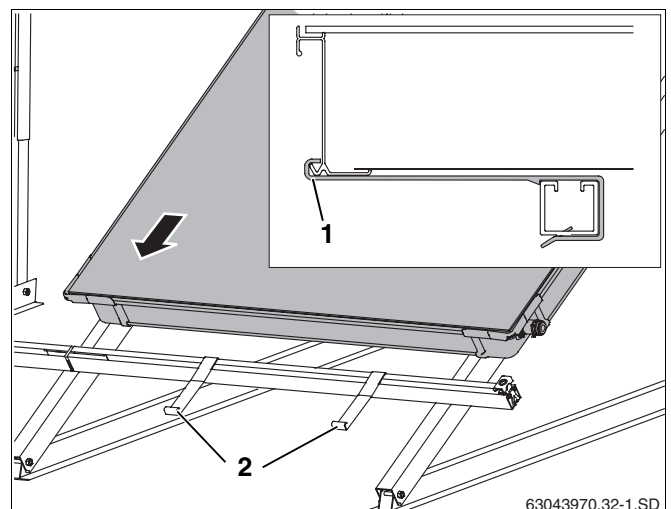

Fig. 46 Laying the first collector on the profile rails
- Place the first collector onto the profile rails and allow it to slide into the anti-slip protectors (Fig. 46, **Item 2**) (Fig. 46).
The lower collector edge must lie in the opening of the anti-slip protector (Fig. 46, **Item 1**).